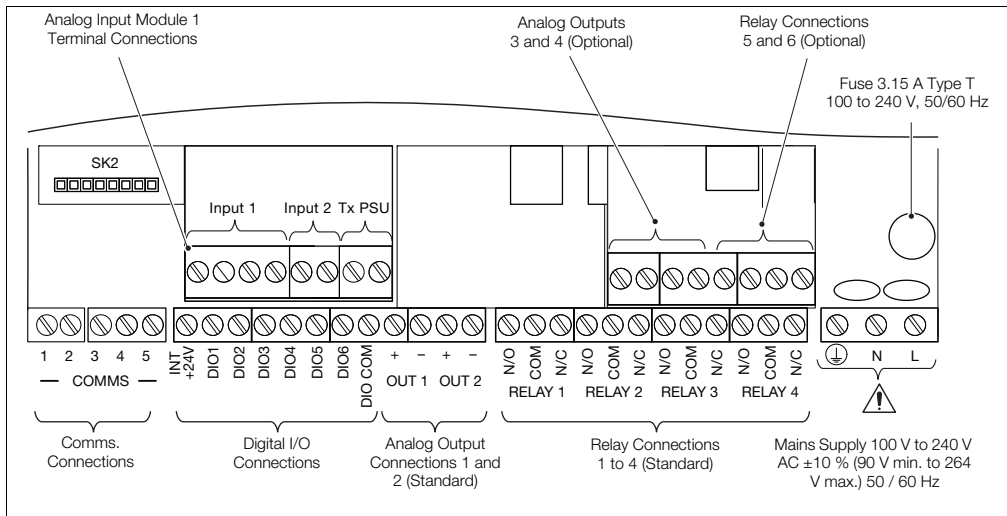

Fig. 4.15 ControlMaster CMF160 Terminal Connections
1. Using a pozi-drive screwdriver, turn the (captive) electronics section door retaining screw (A) $\frac{1}{4}$ turn counter-clockwise and open the door.
2. Turn the cover plate retaining screw (B) anti-clockwise until the cover plate (C) can be removed.
3. Make connections to connection board terminals – see Fig. 4.15, page 23.
4. Refit cover plate (C) and secure it by turning retaining screw (B) clockwise until finger-tight. Close the door and turn door retaining screw (A) $\frac{1}{4}$ turn clockwise to secure.